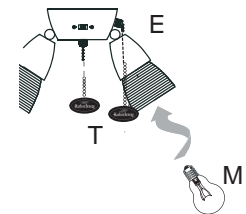

Fig. 8
8. Install four candelabra base 40 watt bulbs (M) included. [Fig. 8]
Pull chain extensions (T) supplied in one of the hardware packs or custom pull chain extensions (sold separately) may be attached to fan and light pull chains. [Fig. 8]